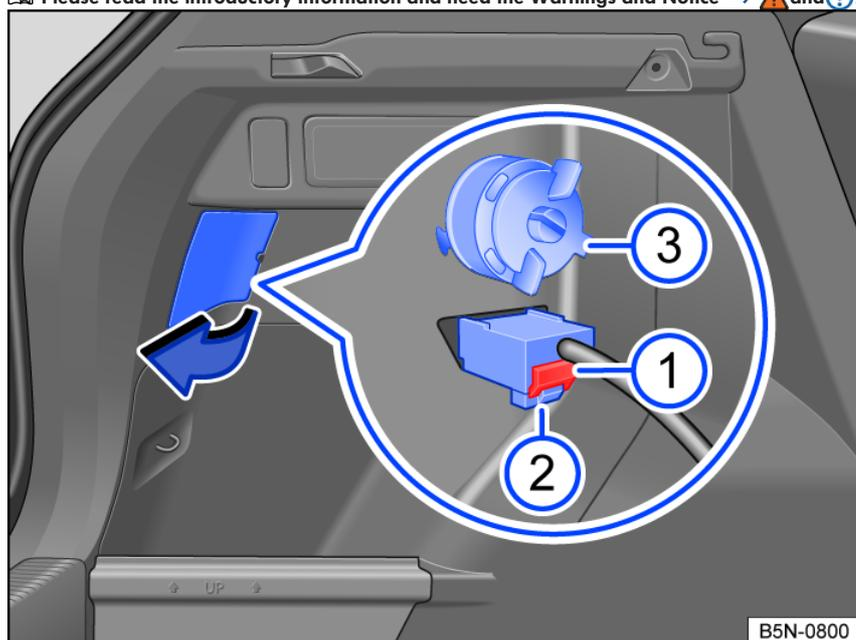

Fig. 173 Side of the luggage compartment: removing the taillight.
3. Open the section of the side trim panel in the trunk near the taillight in the direction of the arrow *fig. 173*.
4. Remove the red locking mechanism *fig. 173* **1** on the connector and remove the connector *fig. 173* **2**. If necessary, use the screwdriver from the vehicle tool kit to loosen the red locking mechanism.
5. Remove the screw counterclockwise *fig. 173* **3**.
2. Hold the taillight in the installation position with one hand and tighten the screw with the other hand *fig. 173* .